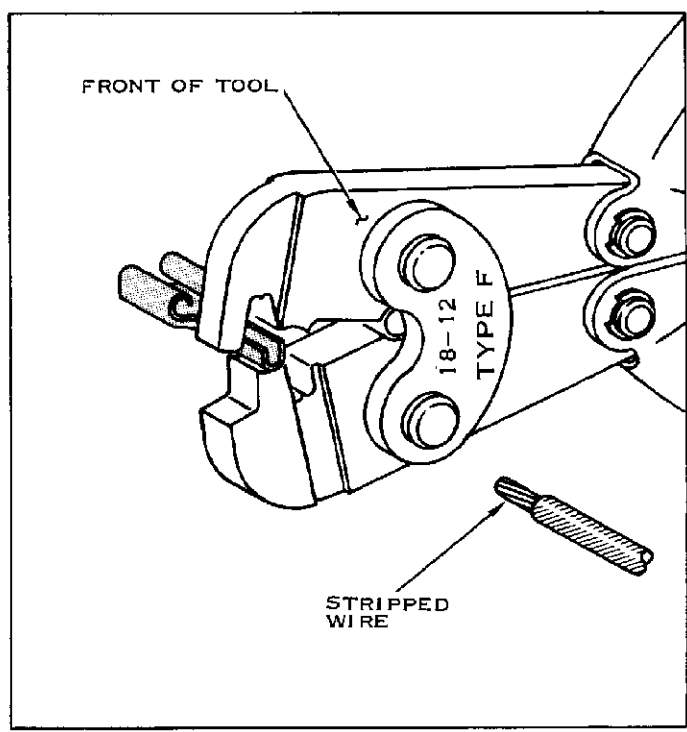

FIGURE 3
1. Open the Tool Handles, and place your terminal's wire barrel in the proper Crimping Section. Figure 3 shows you how.